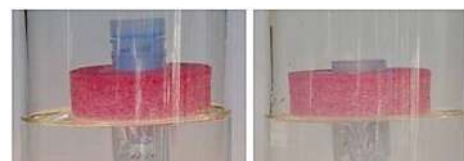

Figure 2: DiaEasy™ Dialysis floating rack in two positions to change the height at which the DiaEasy™ Dialysis tubes are held.
- IMPORTANT: Adjust floating rack height on 10 ml DiaEasy™ Dialyzer tube for upright floating balance during dialysis process. Example: For dialysis of less than 5 ml place the floating rack up to middle the height of the 10 ml DiaEasy™ Dialyzer tube. For dialyses of more than 5 ml adjust the floating rack at the top of 10 ml DiaEasy™ Dialyzer tube (see Figure 2)